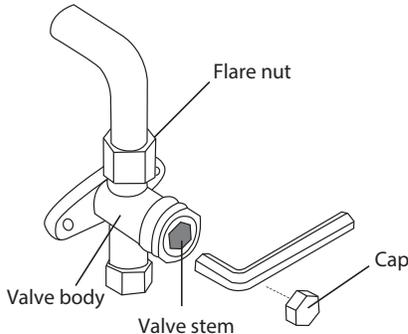

Fig. 21 – Service Valve Diagram
9. Insert a hexagonal wrench into each Gas Side Service Valve for size 18 or into the Master Gas Side Service Valve for sizes 24–48 and open the valve by turning the wrench 1/4 counterclockwise. Listen for gas to exit the system (see Fig. 21).
12. Using a hexagonal wrench, fully open all the gas and liquid service valves for the size 18 and all the Master Gas and Liquid service valves for sizes 24–48 (see Fig. 21).